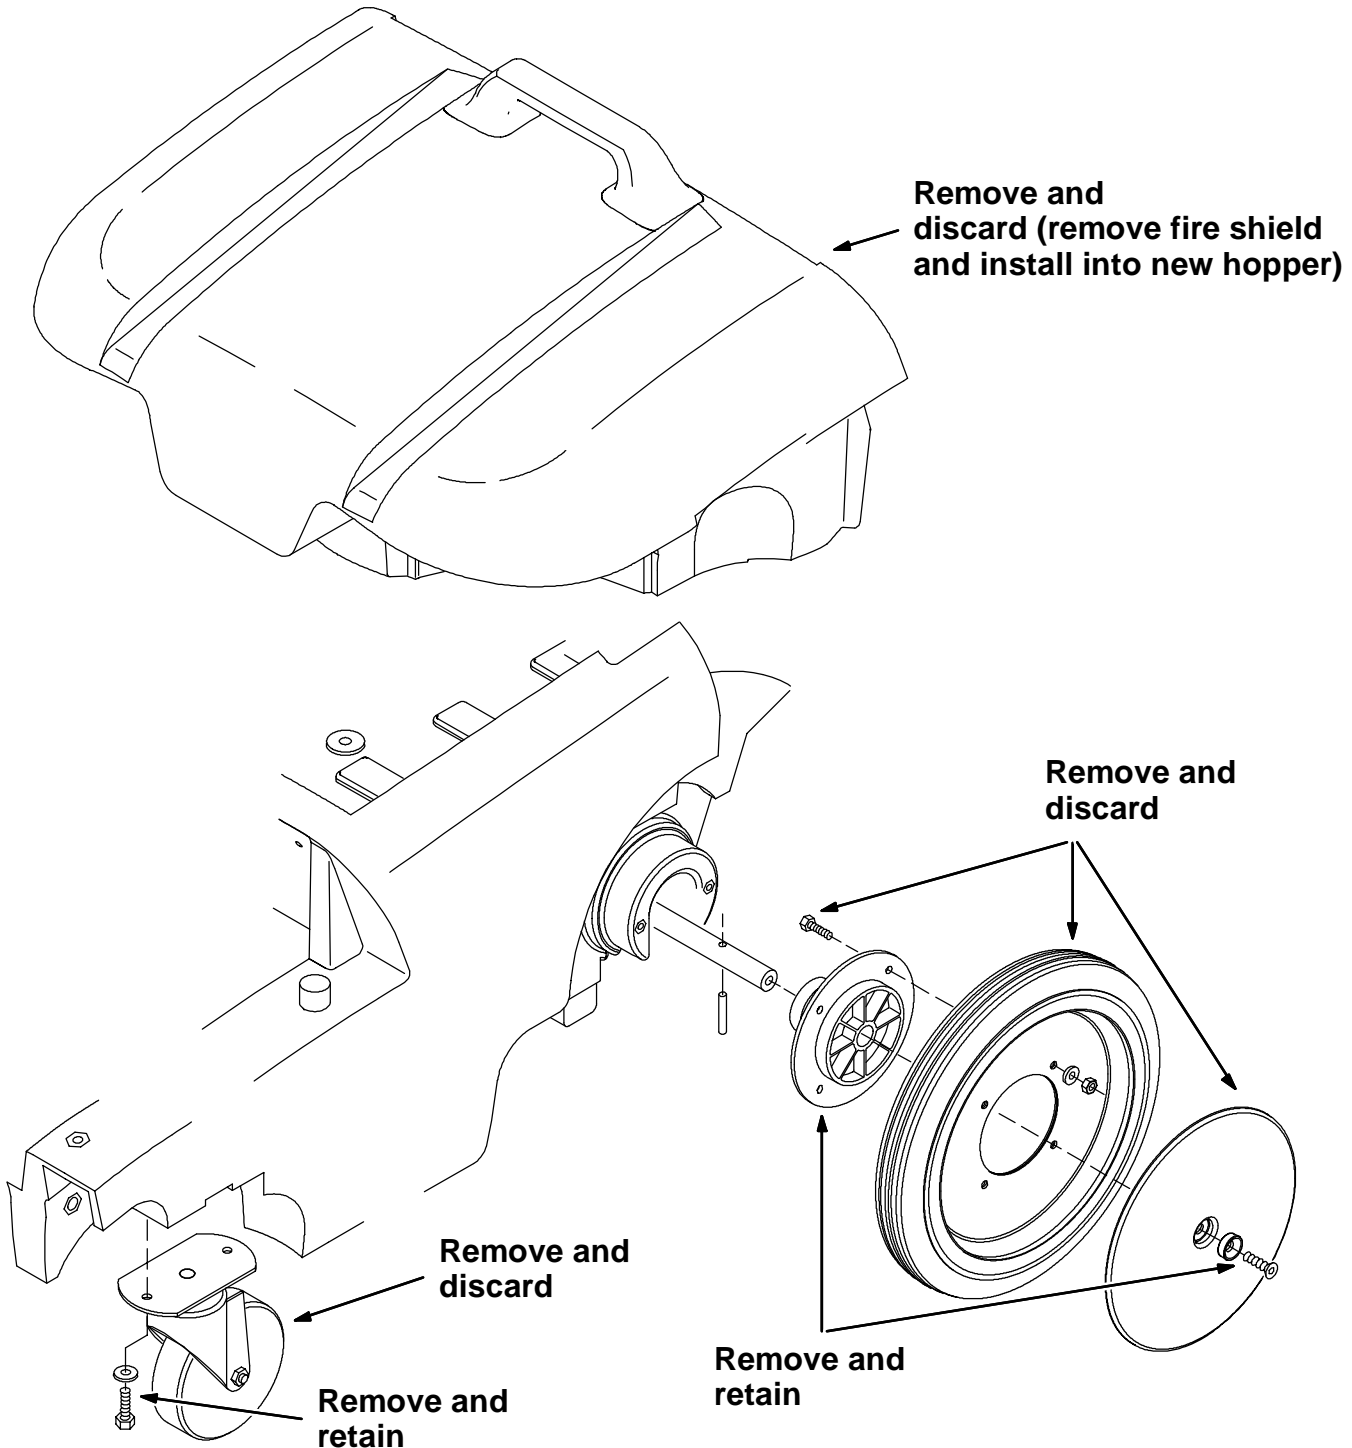

FIG. 1 - Existing 6080 Parts To Remove
(Refer to FIG. 1, 2, and 3)
1. Remove the debris hopper from the machine. Remove and retain the hardware holding the skirt and retainer strip to the hopper. Remove and retain the fire shield from inside the hopper. Discard the hopper and retainer strip. Retain the skirt. (Refer to FIG. 1)
5. Remove the two hex screws holding each of the front casters on the machine frame. Remove and discard both casters. Retain the hardware. (Refer to FIG. 1)
9. Remove the flat head screw and spacer washer holding each hub cap and wheel to the axle. Remove the wheel and plastic hub assembly from both sides. (Refer to FIG. 1)
10. Remove the four hex screws holding the plastic hub to each wheel. Remove and discard the wheel and tire assembly. (Refer to FIG. 1)